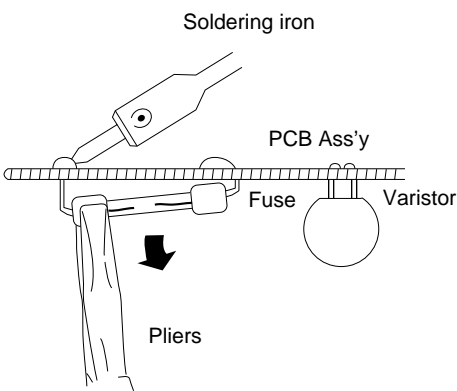

Fig. 6
2. Pull the fuse from the metal clasp using pliers while heating the soldered leads on the back side of the PCB Ass'y with a soldering iron (30W or 60W). (Fig. 6)